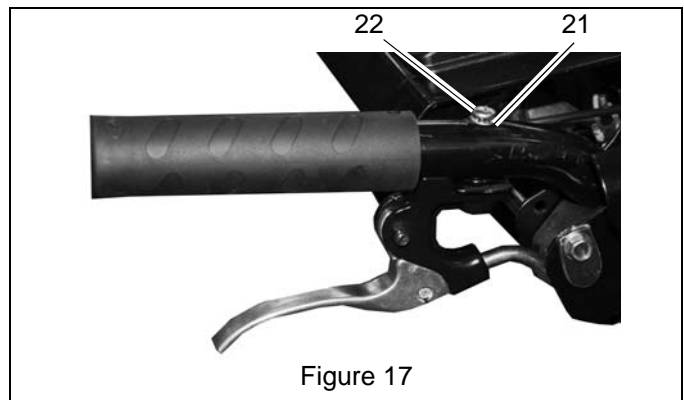

Figure 17
23. Position trigger beneath right side of handlebar. Insert 1/4" machine screw (item 22) through 1/4" internal locking washer (item 21). Insert 1/4" machine screw (item 22) through handlebar in place of bolt removed in Step 21. Thread screw (item 22) into trigger to attach it to machine. See Figure 17.